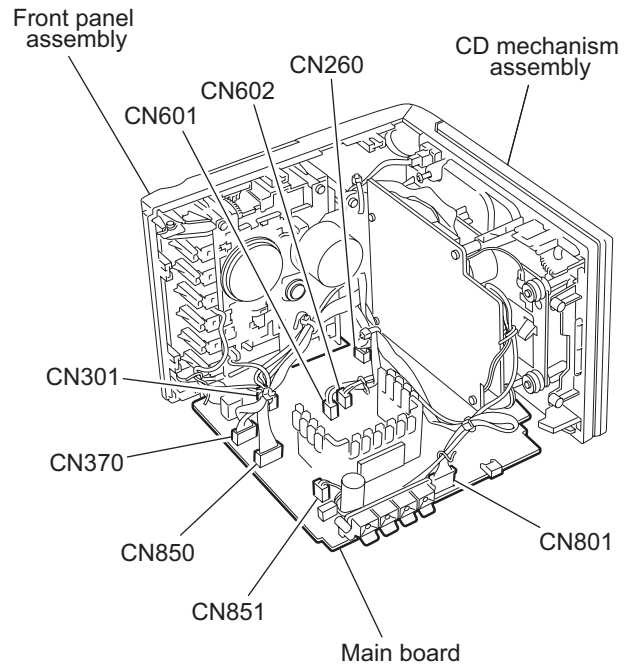

Fig.6
3.1.2 Removing the Main board (See Fig.6 , 7)